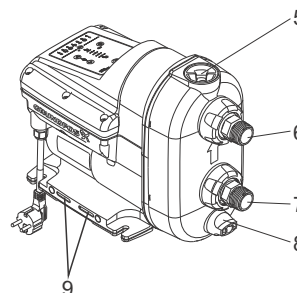

Fig. 19 SCALA pump
5. Gradually open and remove the priming plug. See fig. 19 (5).
6. Remove the drain plug and drain the pump. See fig. 19 (8).
7. Unscrew the union nut holding the inlet connection. See fig. 19 (7). Depending on the installation type, it may be necessary to remove the pipes from both the inlet and outlet connections.
5. Gradually open and remove the priming plug. See fig. 19 (5). The plug and non-return valve are one unit.